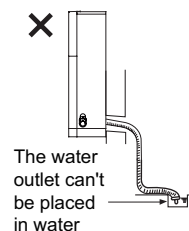

Fig.27
- 3.The water outlet can't be placed in water in order to drain smoothly.(As show in Fig.27)